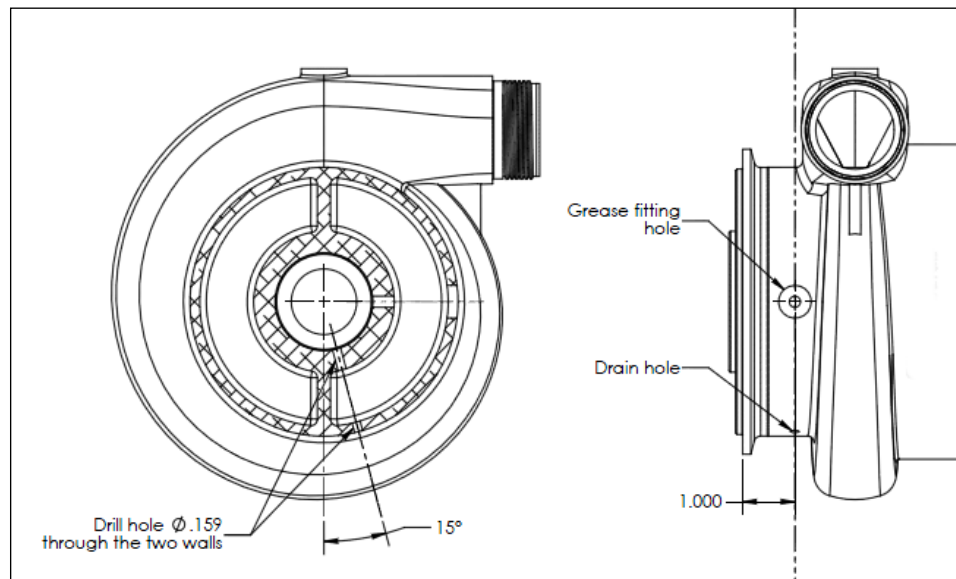

Figure 3: Location of drain hole
5. *If equipped with the Pump Body Drain Hole Drilling Jig (600102), proceed to Step 6.* Mark the location of the holes on the pump body using a punch. The holes should be at approximately 15° from the vertical line and at a distance of 1.000” from the pump body mating surface. See Figure 3. Proceed to Step 9 if you are *not* using the drilling jig.